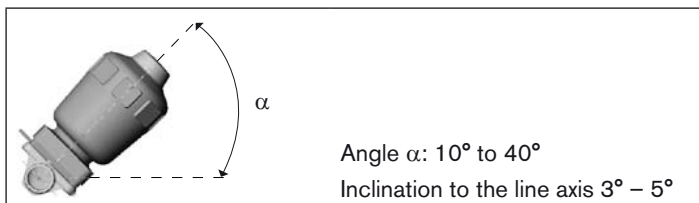

Fig. 4: Installation position for self-drainage of the housing
- Install housing inclined by angle $\alpha = 10^\circ$ to 40° to the horizontal (see Fig. 4:).